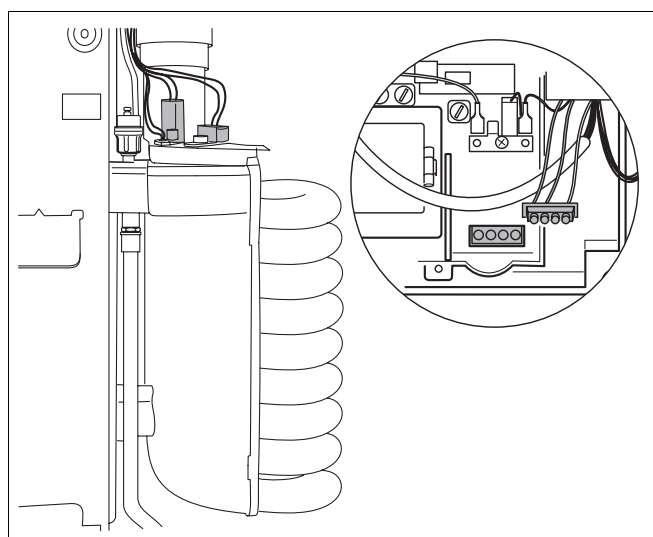

Fig. 80 Disconnect the plug-in cable from the UBA housing
- Unplug hot surface ignitor connection cable from UBA housing (fig. 80).